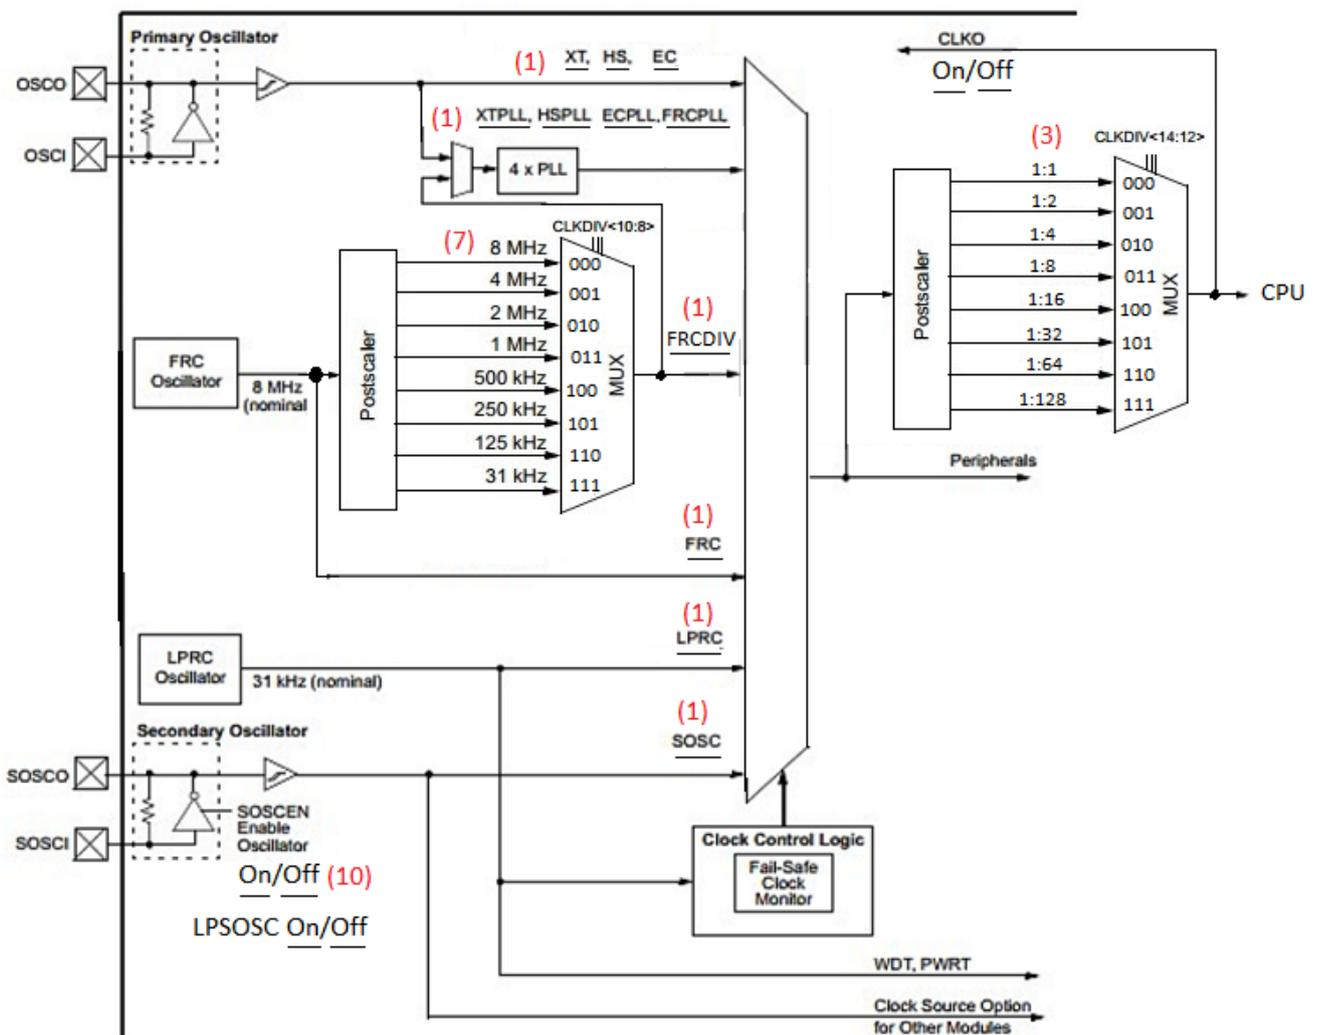

Figure 7 Extended block diagram
Settings/selections that are not available in the block diagram are added, e.g. PLL On/Off, Oscillator(s) On/Off: see (10) and “CLKO On/Off” in Figure 7 Extended block diagram.